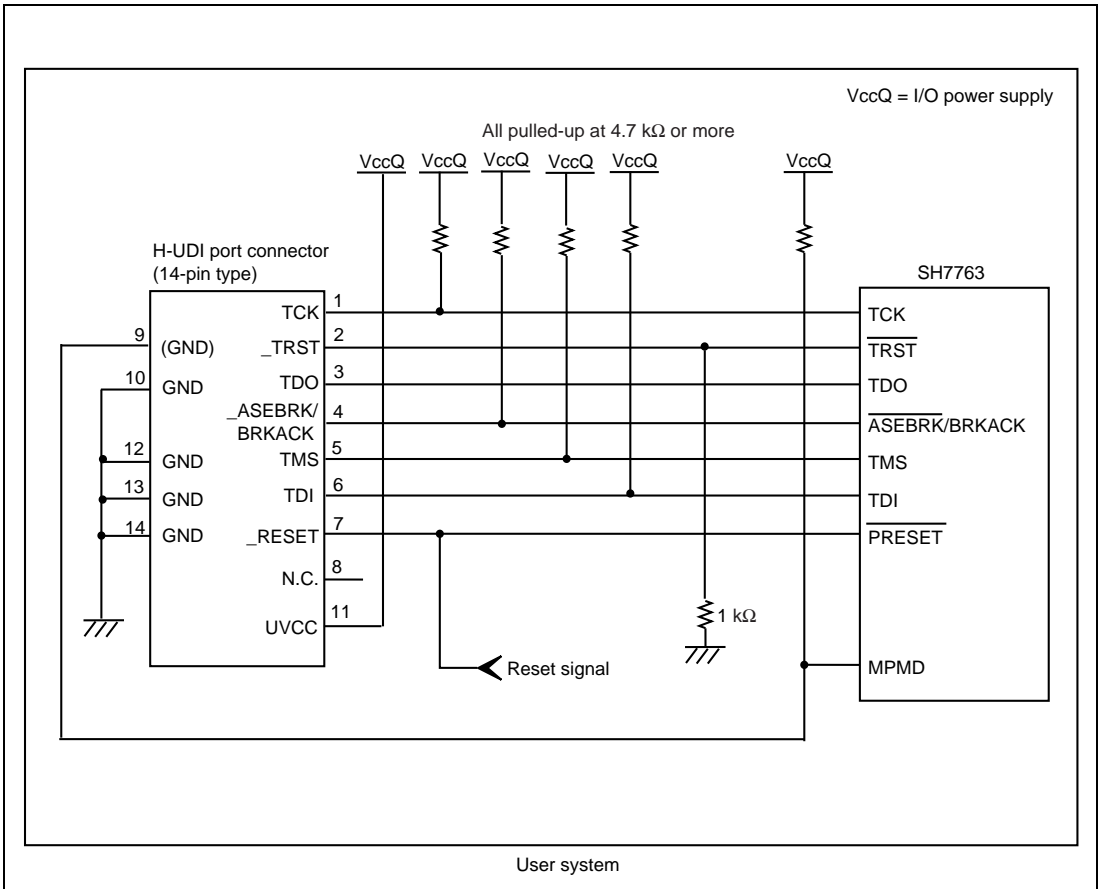

Figure 1.4 Recommended Circuit for Connection between the H-UDI Port Connector and MPU when the Emulator is in Use (14-Pin Type)
Figure 1.4 shows a recommended circuit for connection between the H-UDI and AUD port connectors (14 pins) and the MPU when the emulator is in use.
- (1) When the emulator is used: MPMD = 0
- (2) When the emulator is not used: MPMD = 1Figure 1.4 shows an example of circuits that allow the MPMD pin to be GND (0) whenever the emulator is connected by using the user system interface cable. When the MPMD pin is changed by switches, etc., ground pin 9. Do not connect this pin to the MPMD pin.
6. The resistance values shown in figure 1.4 are preliminary.
When the circuit is connected as shown in figure 1.4, the switches of the emulator are set as SW2 = 1 and SW3 = 1. For details, refer to section 3.8, Setting the DIP Switches, in the SuperH™ Family E10A-USB Emulator User's Manual.